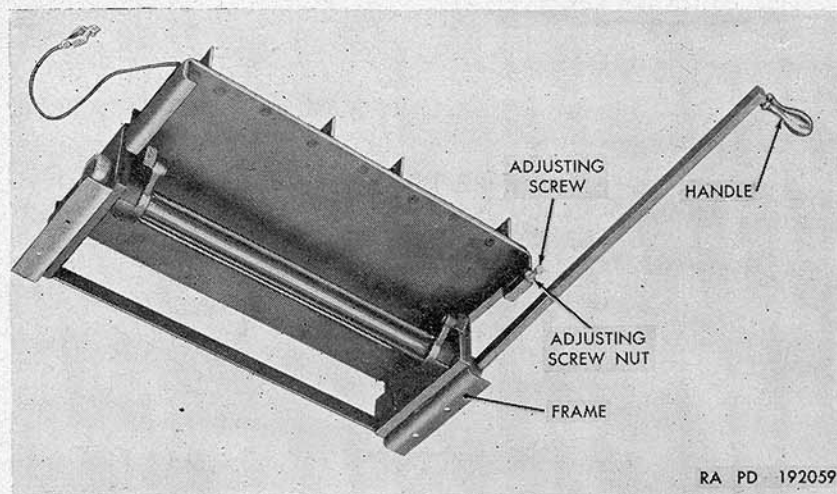

Figure 19. Linking machine T38—bottom view.
- (d) Loosen the adjusting screw nut (fig. 19), and turn the adjusting screw clockwise so that it moves inward toward the front of the linking machine. Turn the screw until it contacts the frame. Lock the adjusting screw in place with the adjusting screw nut.